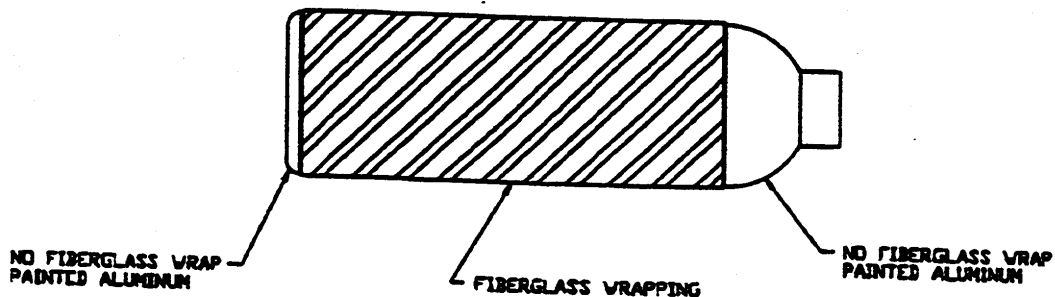

Figure 1. Hoop Wrapped Cylinder Identification
1. Examine only cylinders as shown in Figure 1.